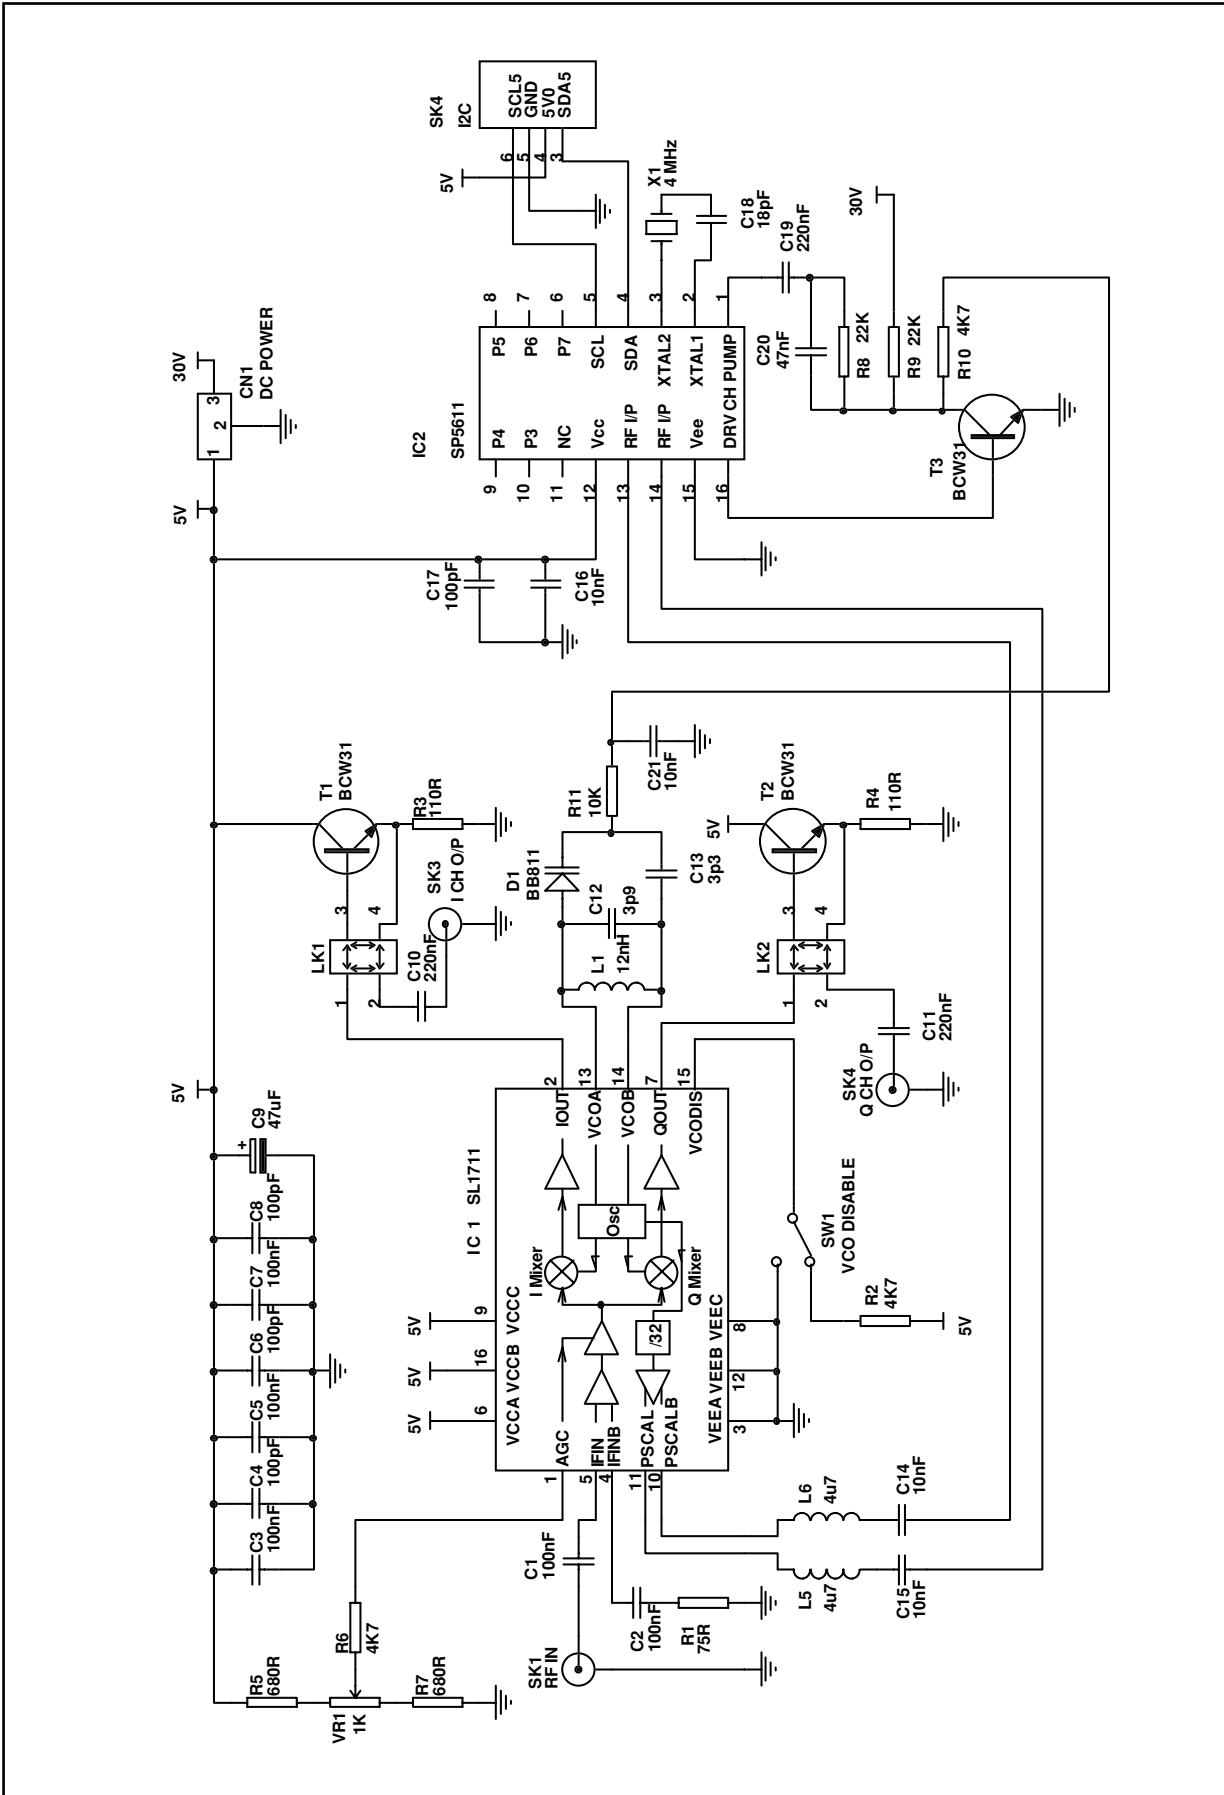
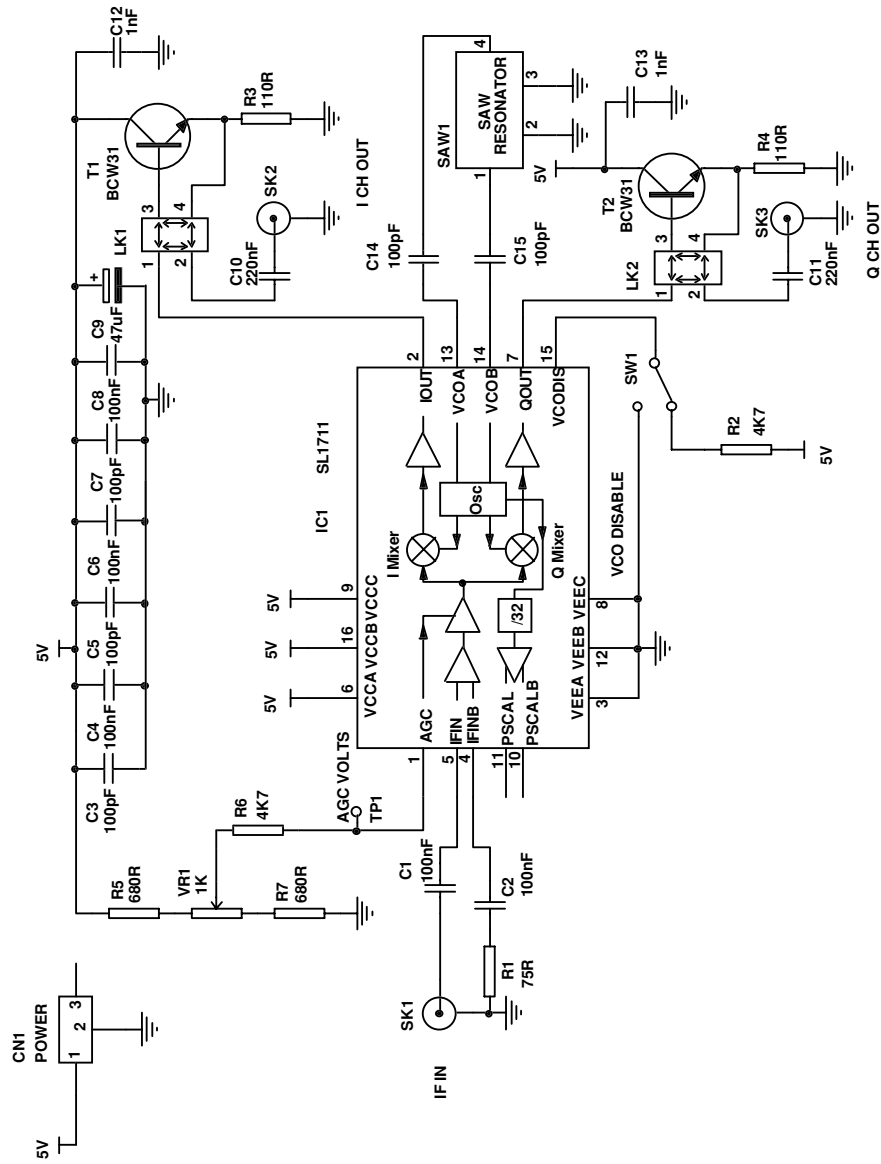
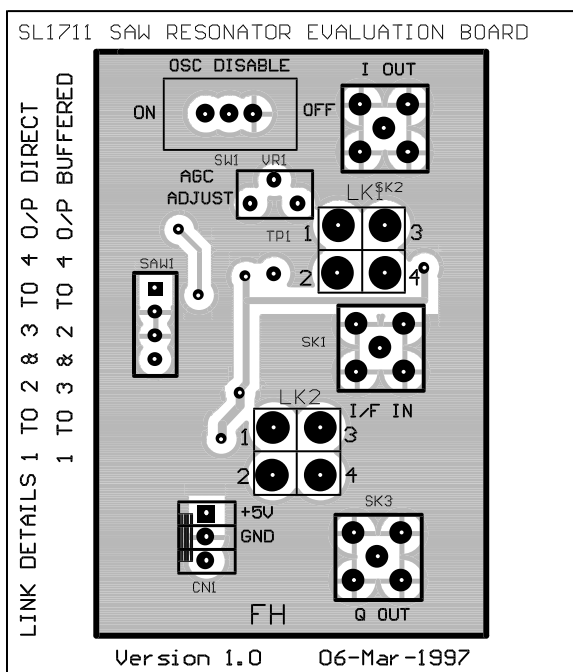
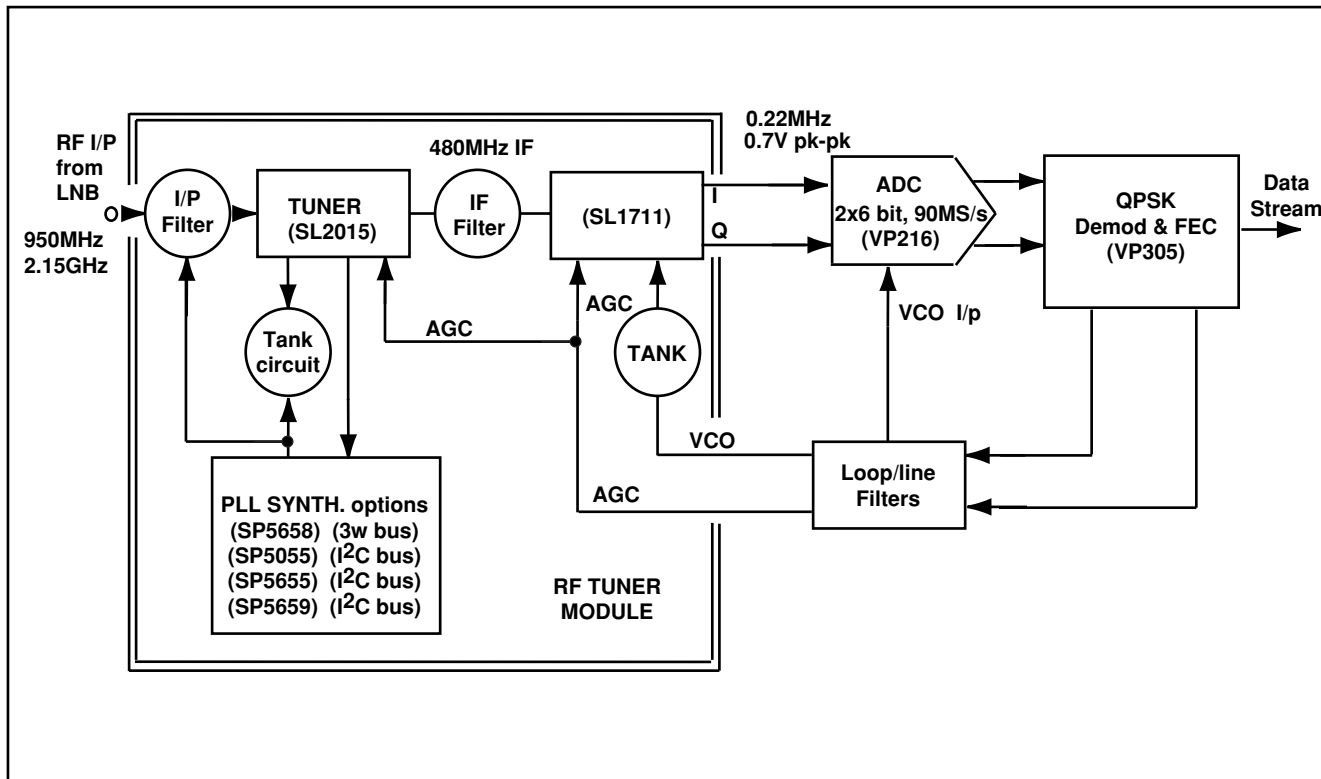

Fig.7 SL1711 standard evaluation board
Fig.10. SL1711 I & Q downconverter with SAW resonator
Fig. 11
Fig.13 Example digital front end architecture
These application notes should be read in conjunction with circuit diagrams contained in Fig. 7 and 10, and a recommended front end tuner solution contained in Fig. 13. These boards have been designed to demonstrate performance and to allow for initial evaluation of the SL1711.
Refer to Fig. 7 circuit diagram and Figs. 11 and 12 PCB layout.
Refer to Fig. 10 circuit diagram and Figs 11 and 12 PCB layout.
**Note:** All ICs shown in Fig. 13 are available from Zarlink Semiconductor.